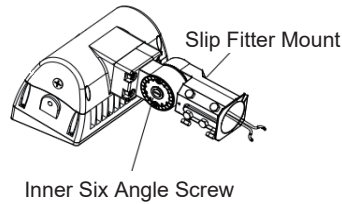

figure 1.1
Step 2 Finish the wiring connections according to the wiring diagram (L=Black, N=White, G=Ground) and then route the wires into the lamp pole (figure 1.1).